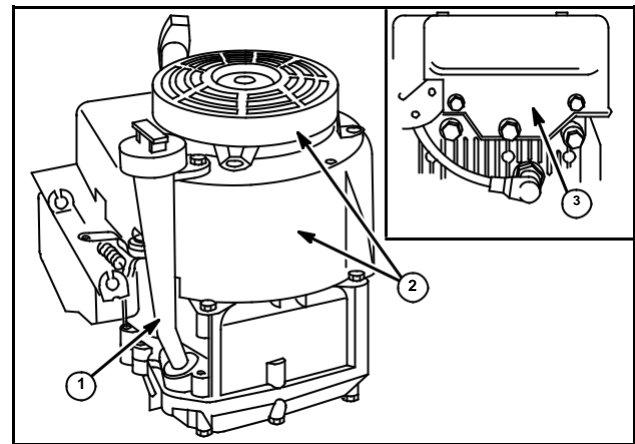

Fig. 127
2. Remove dipstick and oil fill tube (1), Fig. 127.
3. Remove blower housing and rewind starter (3, 2), Fig. 127.